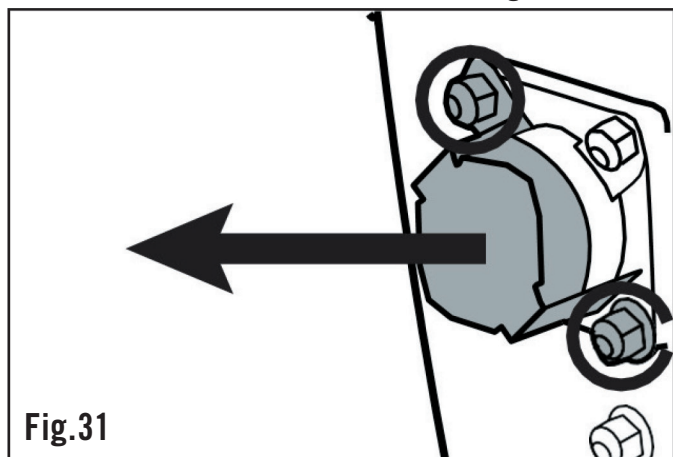

Fig.31
2. Remove the hopper (4)
3. To allow access to the blade shaft remove the two nuts from the blade shaft cover (14) (fig. 31).